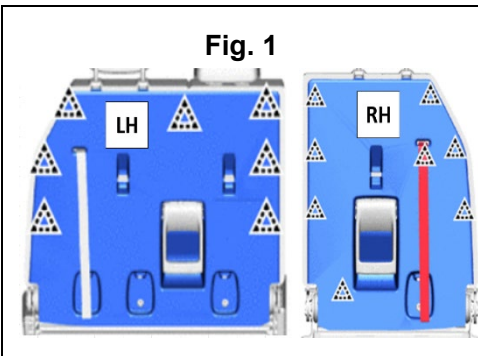

Fig. 1
4. See Figure 1 for clip location.